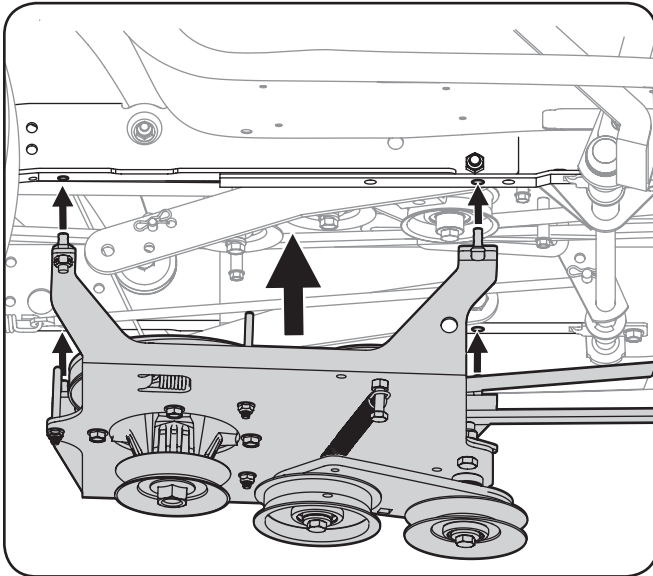

Figure 3-11
9. Place the undercarriage assembly beneath the tractor and lift it up against the frame of the tractor. See Figure 3-11.